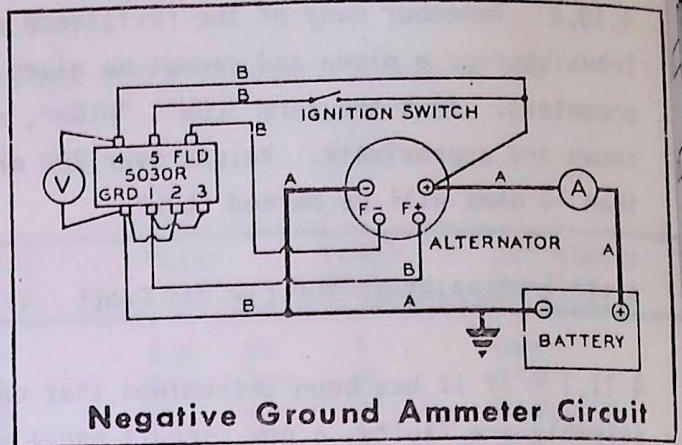

FIGURE 4-4. Negative Ground Ammeter Circuit
4.4.1 After the field relay has been checked or repaired and the relay closes at the proper voltage, we can then check the voltage control or transistor portion of the regulator. Figures 4-4, 4-5, 4-6 and 4-7 show the necessary wiring for testing the 5030RA regulator on a test stand. These four external diagrams cover ammeter or chargelight circuits of both polarities. These circuits also apply to installation of the equipment on vehicles but with the exception of the test equipment used in the circuits. See Figure 4-8 for the correct wire size for vehicle applications.